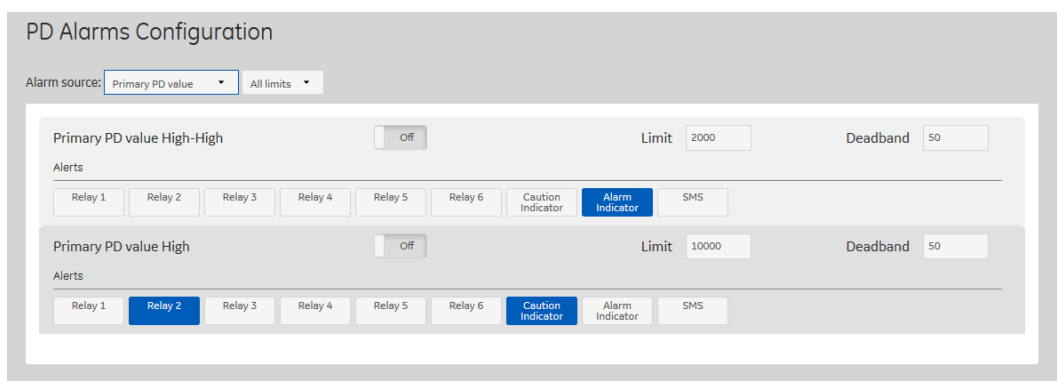

Figure 10-33: PD Alarms Configuration > Primary PD value
- Select **Alarms > PD Alarms Configuration** and expand the **Primary PD value** alarms as shown in Figure 10-33.